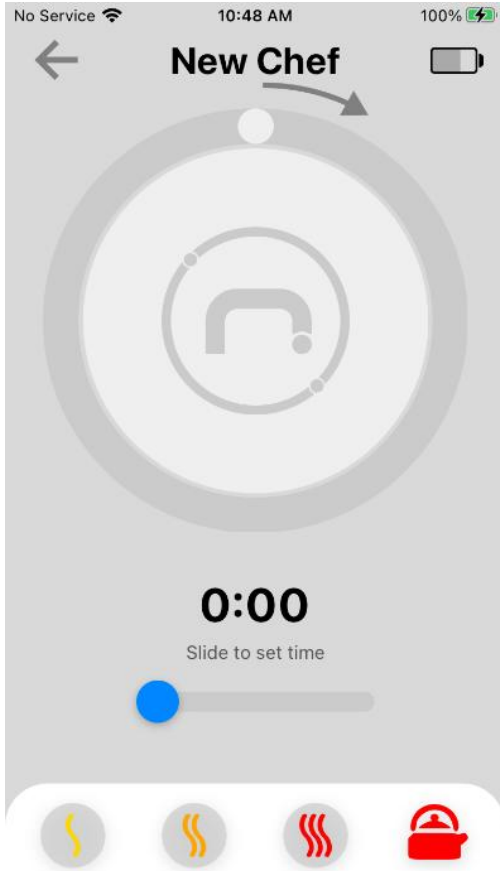

Fig 9 — Cooking screen
- Once in the cooking screen, turn the cooking dial (small white circle at the top of the screen) clockwise to start cooking with Chef. A higher dial number means higher power/wattage. You can also set a timer using the slider below the power dial. Tap the RED “X” circle to stop cooking. See Fig 9 & 10 above.
- Timer: Use the app to set a cooking timer which will send you a notification when the timer has expired. You then have the option to Dismiss the timer. See Fig 9.